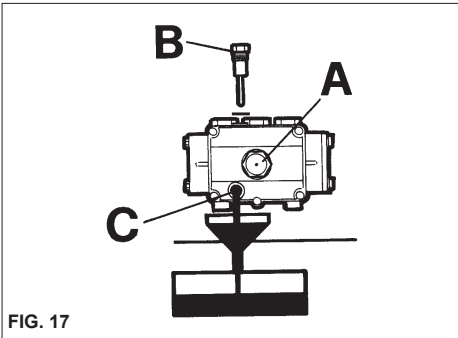

FIG. 17
- 2) Unscrew the cap with the dipstick (fig. 17).